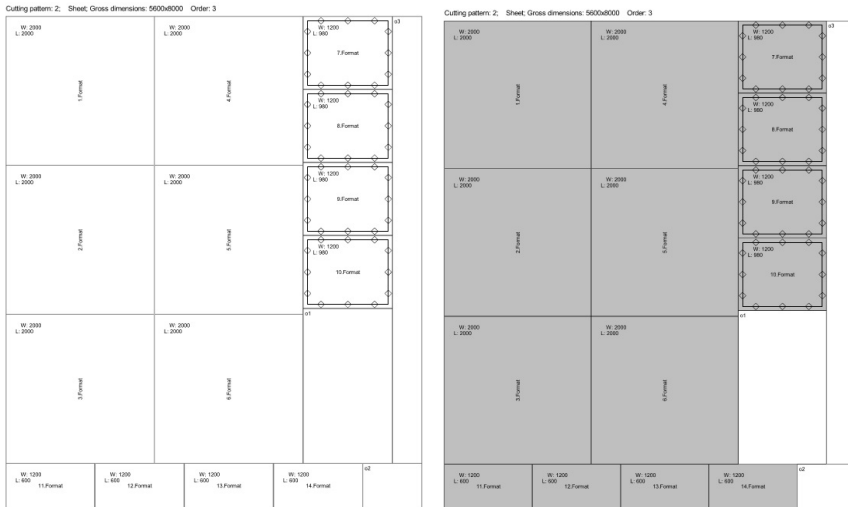

Fig. 82 – a part of a printed report – without and with darkening of formats
- **'Darken formats on the printout'** – after enabling this option formats will be filled on the printout (Fig. 82).